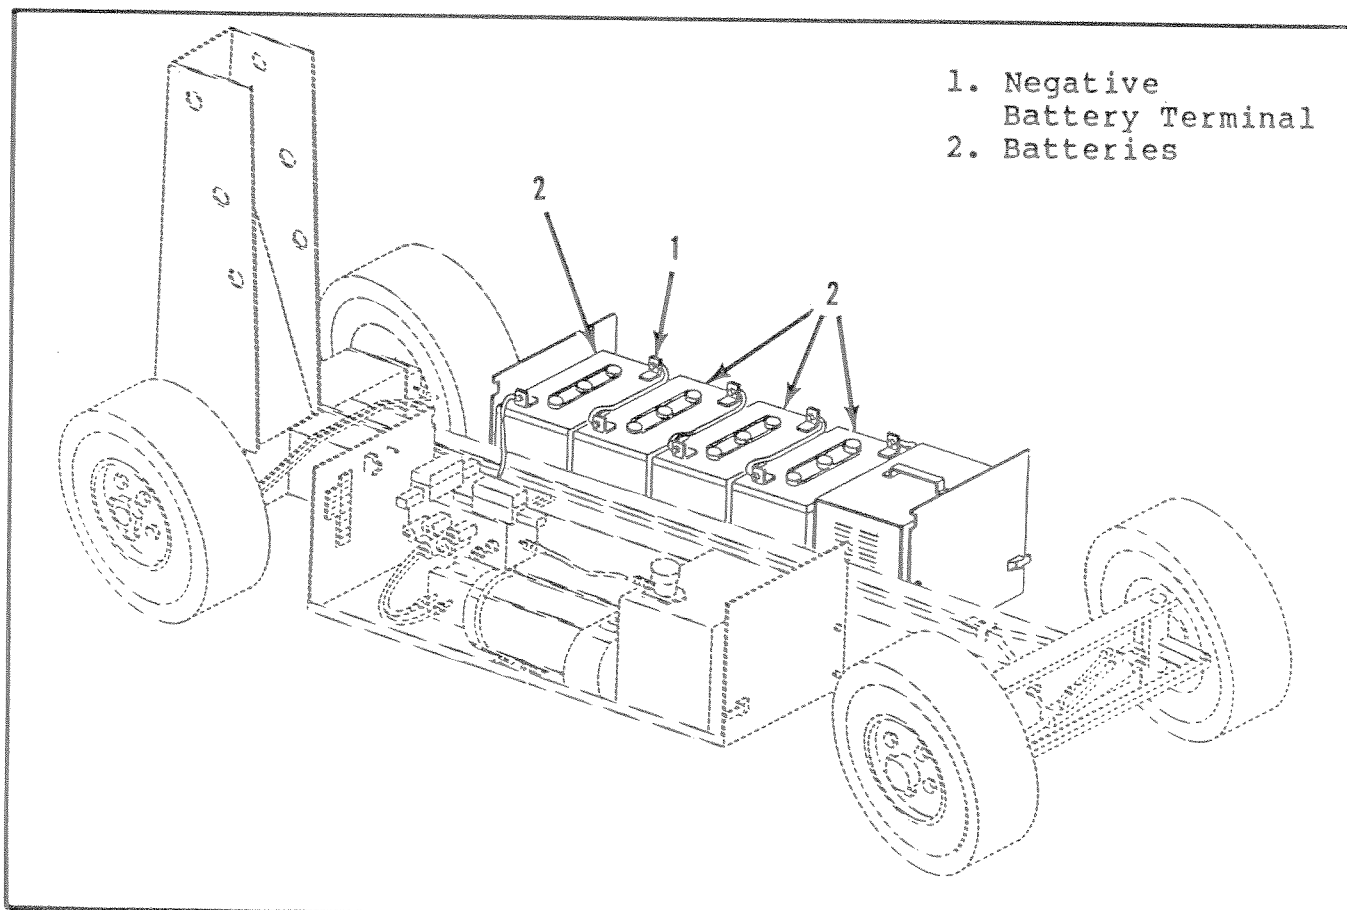

Figure 3-1. Batteries
- f. Connect the negative battery lead terminal (1, Figure 3-1).
- b. Disconnect the battery negative (-) lead from the battery terminal (1, Figure 3-1).